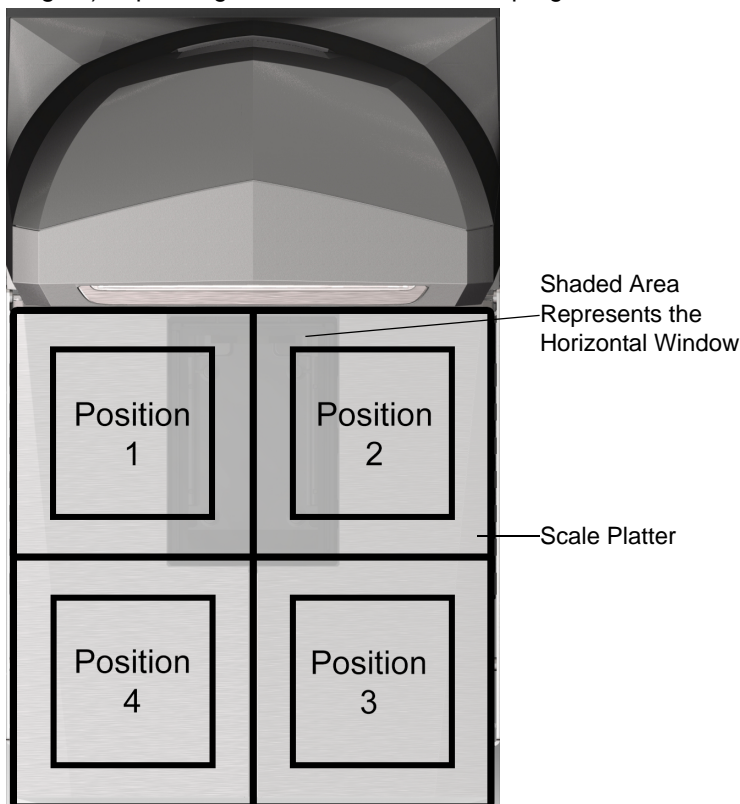

Figure 4-4 Weight Positions on the Scale Platter
| Shift Test (see Figure 4-4) | | | | |
The weight checked at each position on the scale, shown in Figure 4-4, represent halfway between the center of the platter and corner. Use a stack configuration of weights if needed (i.e., (2) 5.00 lb weights, or (2) 2.500 kg weights) depending on the units of measure programmed.